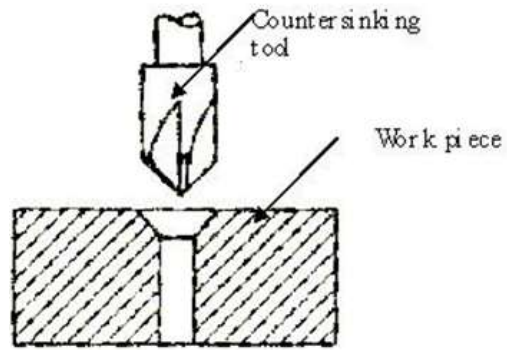

Fig. 7.13: Countersinking Operation
4. Counter sinking: Countersinking is the operation of making the end of the hole into a conical shape. It is done using countersinking tool as shown in fig. 7.13. This process may also be employed for deburring the holes. The cutting speed for this operation must be about one - half of that used for similar size drill. The countersunk holes are used when the countersunk screws are to be screwed into the holes so that top faces have to be in flush with the top surface of the work piece.